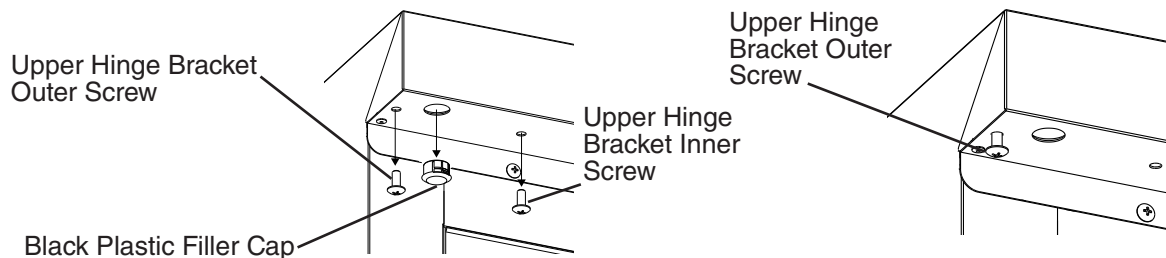

Fig. 33
- 15) Remove the upper hinge bracket screws from the new location and apply Loctite Threadlocker Blue 242 or 243 to the threads. Next, start the upper hinge bracket outer screw into the appliance. Rotate a few threads into the appliance; do not tighten the screw. See Fig. 33.